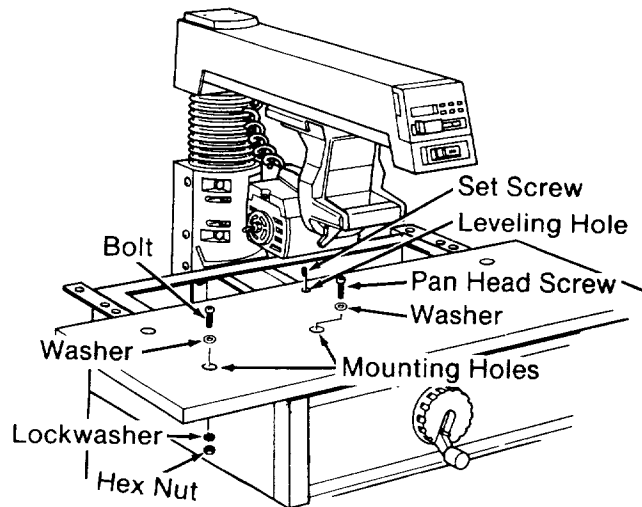

Fig. 61
4. Place the *front table* on the *saw* so that the *mounting holes* in the *table* line up with holes in the *table supports* and center channel of *saw*. (Figure 61)
5. Start the *cup point set screw* through the *leveling hole*. Do not tighten. (Figures 61 & 62)
6. Put a *washer* in each of the *mounting holes*. (Figures 61 & 63)
7. Start a *pan head machine screw* through the center *mounting hole*. Do not tighten. (Figures 61 & 64)
8. Install the *pan head bolts* through the other four *mounting holes*. Put a lockwasher and hex nut on each bolt and tighten using a Phillips screwdriver. (Figures 61 & 65)